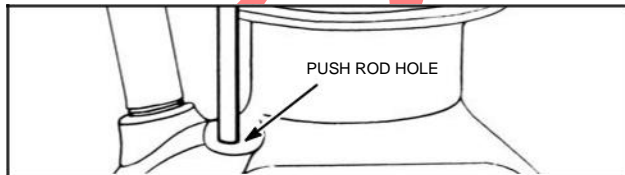

Fig. 114 - PUSH ROD HOLE
3. The push rod and hole are worn, Fig. 114.